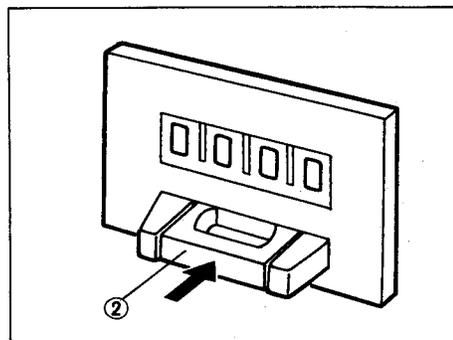

Fig. 6 (Enlarged view of Fig. 5)
- (5) Press the reset button ① to reset the life meter to "000.0" (Fig. 6)